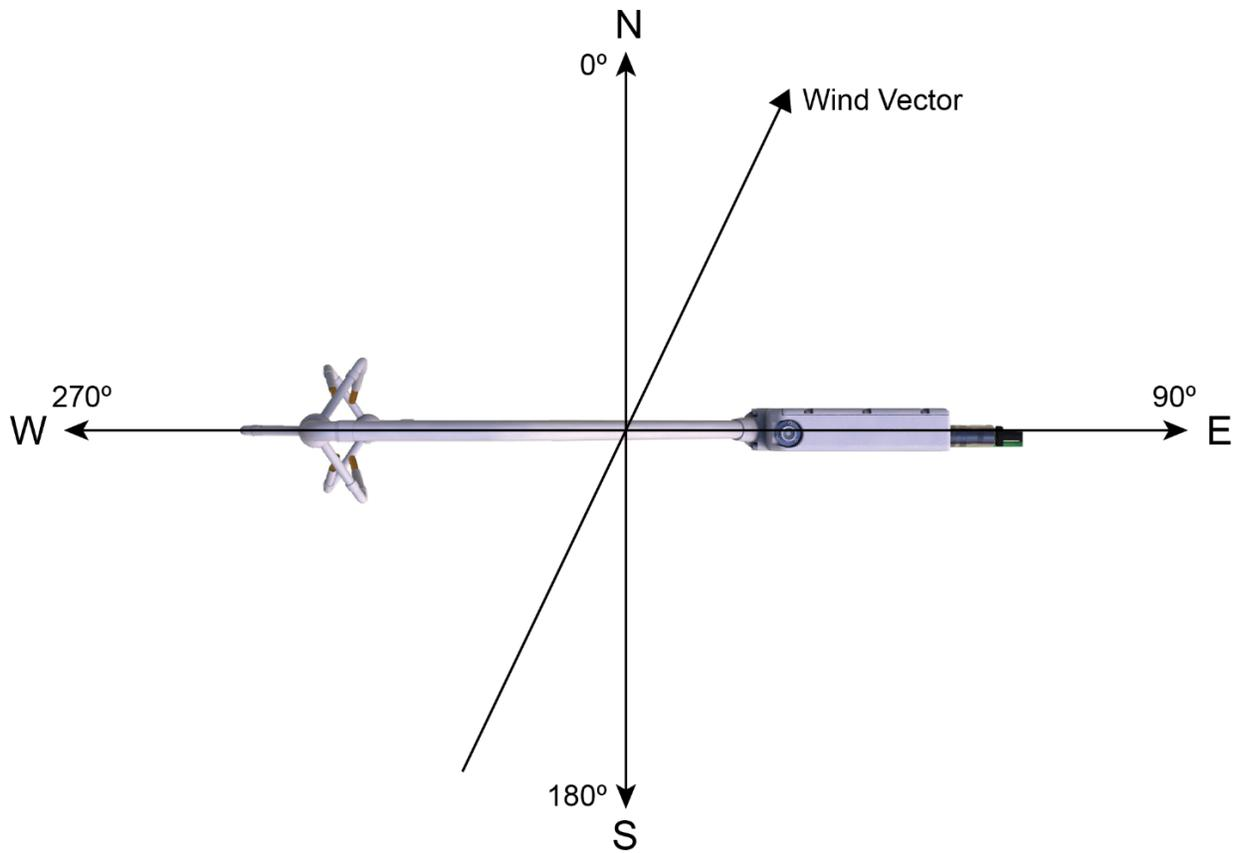
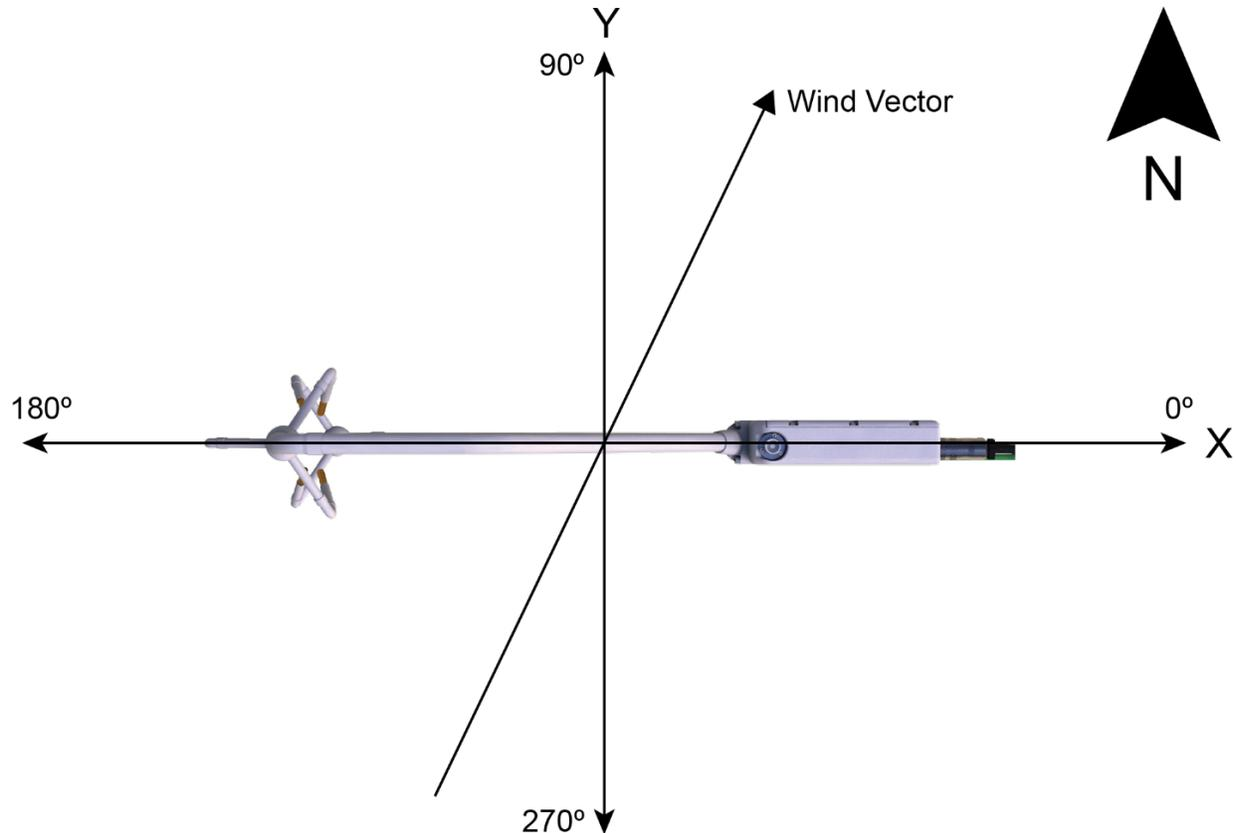

FIGURE 10-1. Compass coordinate system, compass wind direction is 200°. The sonic azimuth of the anemometer is 270°
FIGURE 10-2. Right-handed coordinate system, horizontal wind vector angle is 70°
*EasyFlux DL* reports the wind direction in both the sonic coordinate system (a right-handed coordinate system, FIGURE 10-1) and in the compass coordinate system (a left-handed coordinate system, FIGURE 10-2). To report the wind direction in the compass coordinate system, the orientation of the sonic must be known. The sonic coordinate system is relative to the sonic itself and does not depend on the sonic's orientation. The compass coordinate system is fixed to Earth. For the *EasyFlux DL* program to compute the correct compass wind direction, the azimuth of the sonic negative x-axis must be entered into the program. The output value for the compass coordinate system is **WD** and the output value for the sonic coordinate system is **WD\_Sonic**. The program default value for the variable **sonic\_azimuth** is **0**. To report a true compass wind direction, an appropriate value for **sonic\_azimuth** must be entered into the program. The default is appropriate only if the sonic is mounted such that the negative x-axis points to the north.
FIGURE 10-1 and FIGURE 10-2 show the compass and sonic coordinate system. Both figures show the sonic's negative x-axis pointing to the west (compass azimuth of 270°). The wind direction is measured in degrees clockwise from due north. In the compass coordinate system, the wind direction (**WD**) is 200. To calculate the wind direction in FIGURE 10-1, the orientation of the sonic anemometer relative to due north is needed in the program. FIGURE 10-2 is in a right-handed coordinate system, and the wind vector direction is measured in degrees counterclockwise from the positive x-axis. Therefore, the wind vector direction (**WD\_sonic**) is 70°.